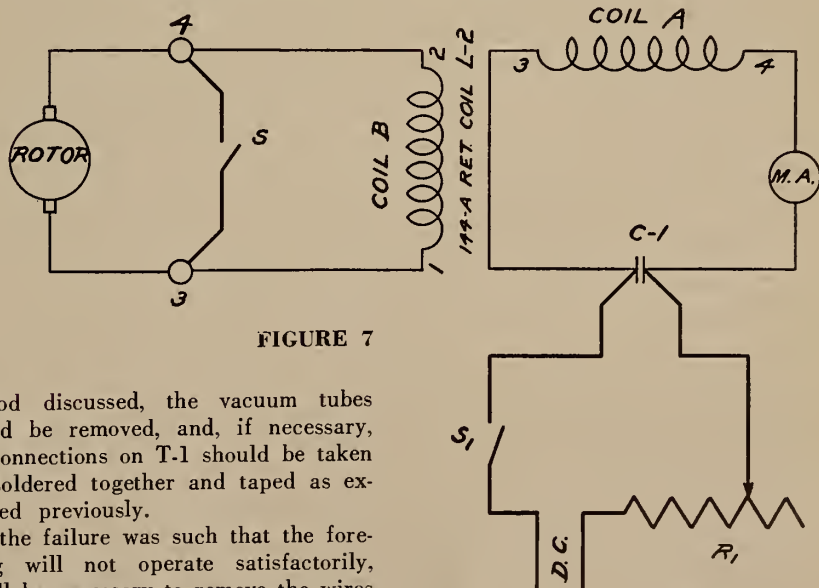

FIGURE 7
If the arc supply voltage be from a generator, it will probably be of a value of 110 volts or less. If this is the case, the temporary connections should be made as shown in Fig. 7, where
a. Close switch S at some time before the changeover is to be made (Fig. 7).